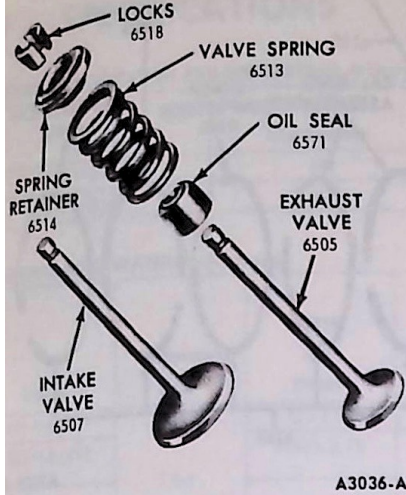

FIG. 37 Valve Assembly
2. Install each valve (Fig. 37) in the valve guide from which it was removed or to which it was fitted.